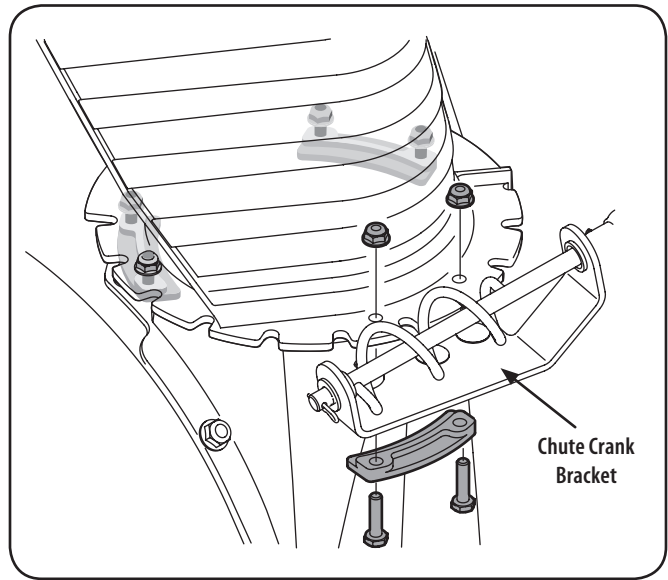

Figure 3-4
1. Loosen, but do not remove, the chute crank bracket in order to attached the chute assembly. See Fig. 3-4.
2. Remove lock nuts and screws securing one of the flange keepers to the chute assembly. Loosen the fasteners of the other two flange keepers. See Figure 3-4.
4. Secure flange keeper removed earlier with lock nuts and screws. Tighten down nuts securing the other two flange keepers. See Figure 3-4.